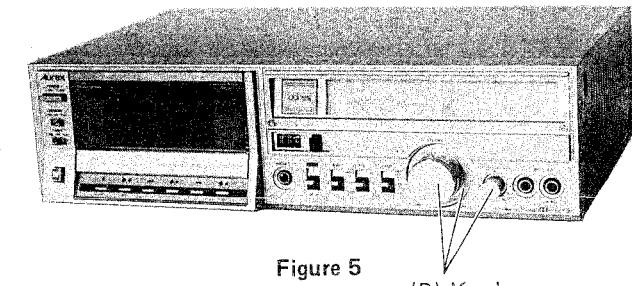

Figure 5
## REMOVAL OF FRONT PANEL (See Figure 5 through 13)
1. Remove three knobs (B). See Figure 5.